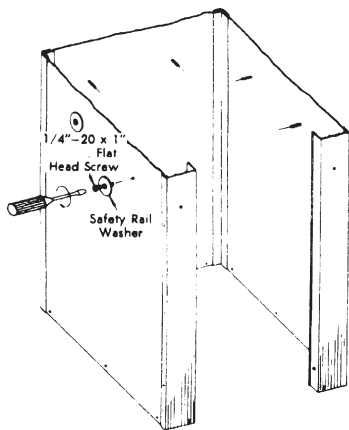

FIG. 3
3. Insert a **1/4"-20 Flat Head Machine Screw** through the hole in molded **Safety Rail Washer**. Note that there are two holes punched in the center of each panel. Screw a washer/screw assembly into each hole from outside as shown. **Do not overtighten!** (FIG. 3)